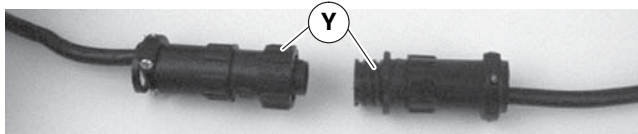

Figure 17
3. For DC variable speed motor, unplug motor cord at disconnect (Figure 17, item Y).